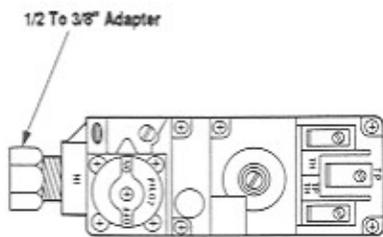

Figure 20
**Step 2.** Remove the 3/8" adapter fitting from the flex connector and attach the adapter to the gas control valve using a wrench and pipe joint compound. Tighten securely (Figure 20).